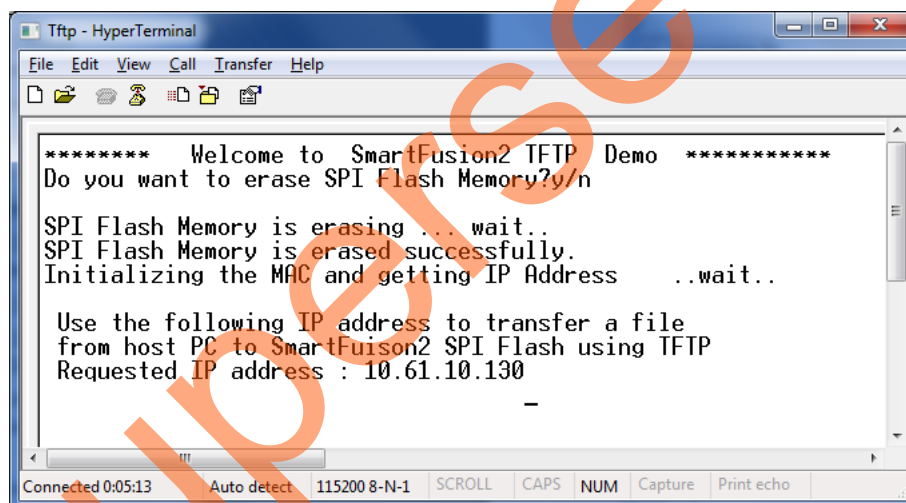
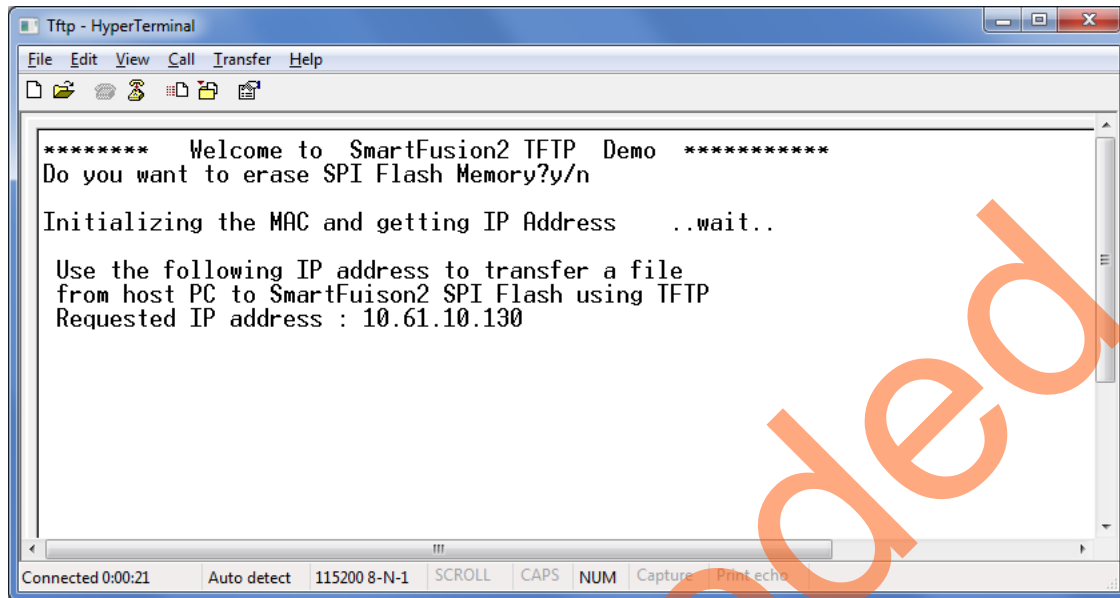

Figure 26 • HyperTerminal with IP Address - Erasing SPI Flash Memory
Figure 27 • HyperTerminal with IP Address
5. Type **y** to erase the SPI Flash memory contents, as shown in Figure 26.
6. Type any key other than **y** to skip SPI Flash erasing, as shown in Figure 27 on page 27.
The HyperTerminal program displays the dynamic IP address also, as shown in Figure 26 on page 26 or Figure 27.